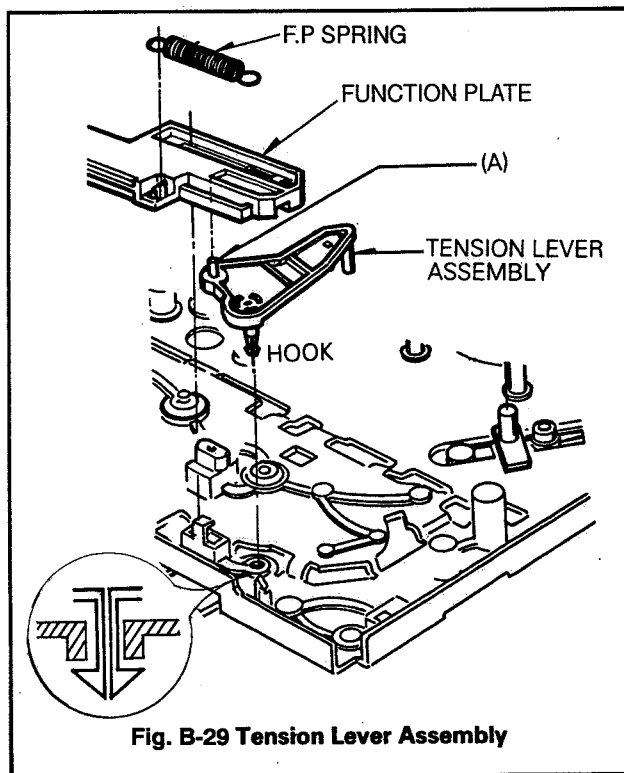

Fig. B-29 Tension Lever Assembly
- 1) When reassembling, the groove of Lower part of Function Plate should be aligned with the shaft of Tension Lever Assembly (Fig. B-29).
29. Tension Lever Assembly (Fig. B-29)